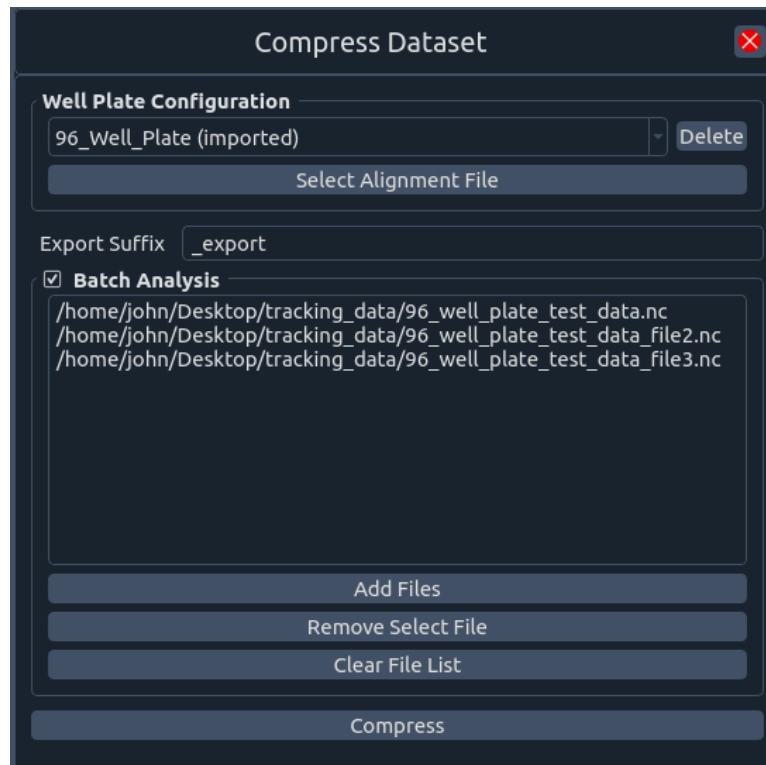

Fig 41: Batch analysis option within video compression.
- Multiple files can be compressed at once by clicking the “Batch Analysis” checkbox and adding more files to the queue. **Note that all files to be compressed in a batch must share the same well alignment file (Fig 41).**